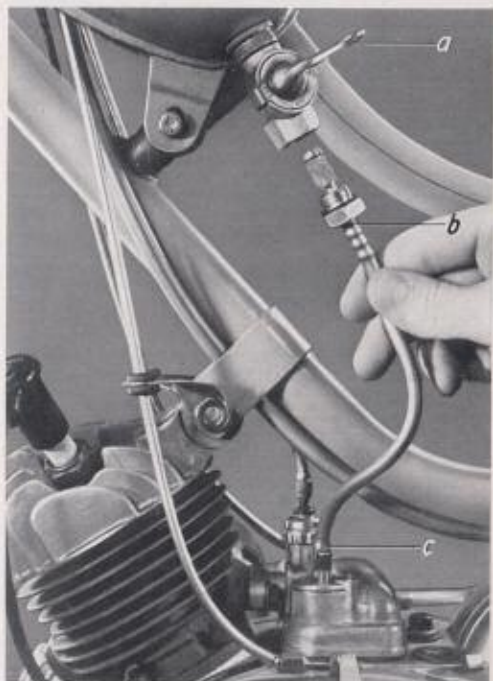

Fig. 5
- 2.1 Close the fuel tap (a), unscrew the fuel pipe (b) at the tap which should be cleaned at the same time, or remove the tube at the carburettor (c). (Fig. 5)